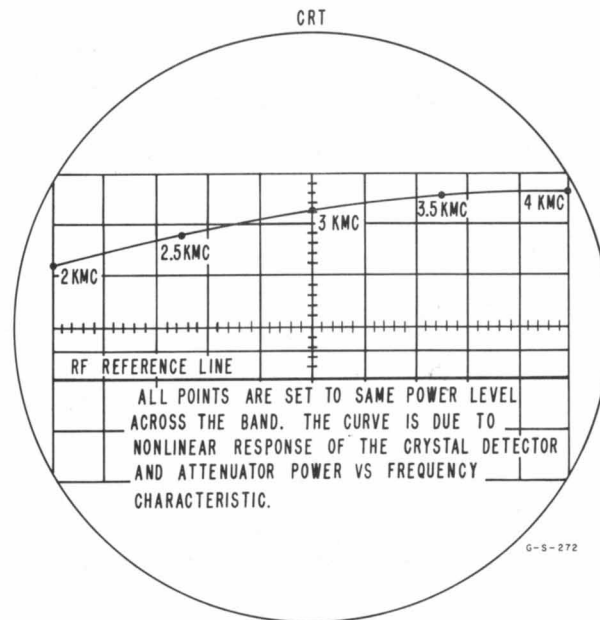

Figure 4-12. Crystal Detector-Attenuator Response Curve
- f. For an rf reference draw a line with a grease pencil at some arbitrary point on the oscilloscope graticule. Set the oscilloscope beam at the rf reference line (see figure 4-12).
- h. The point at which the oscilloscope electron beam deflects vertically from the reference line is the 30 milliwatt point at 2 kmc (gc). Place a mark on the oscilloscope graticule as shown in figure 4-12.
Note: As each point is plotted on the oscilloscope, the oscilloscope HORIZ. POS. control must be rotated to move the power point to a new position on the graticule (see figure 4-12). The space between positioned plots on the oscilloscope graticule can be easily interpolated. With oscillator power output a constant across the band, any indicated power variation is due to the characteristic of the crystal detector and attenuator used in the test setup. If not compensated for, these will introduce appreciable error.
- j. Connect points on the graph (see figure 4-12). This will give a permanent record of the power-line curve for the particular crystal and attenuator used.